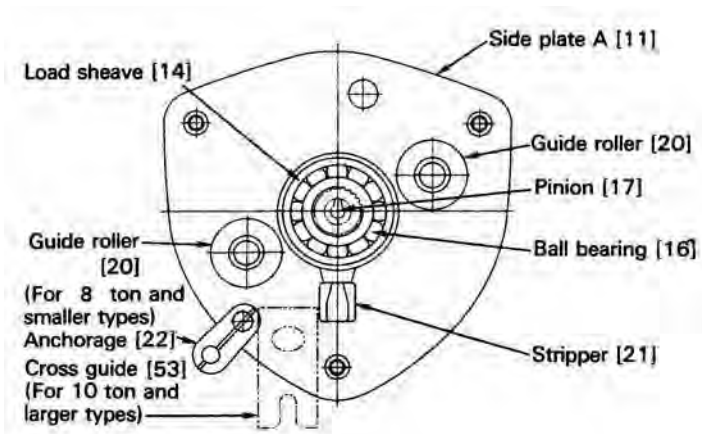

Figure 6-3 Side Plate Assembly
- 5)** Grease the balls of the ball bearing [16]. Insert it with the snap ring side down to the shaft of the load sheave [14]. See figure 6-3.